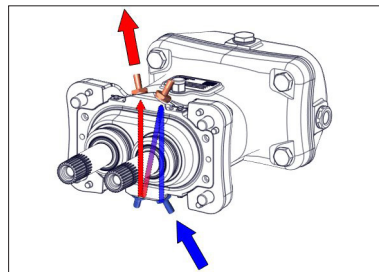
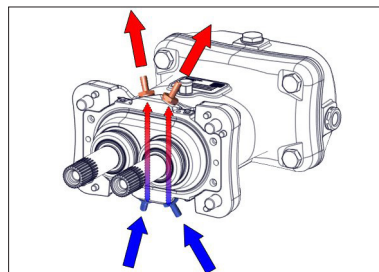

Fig. 6.3: Loss flushing
Fig. 6.4: Circulation flushing and connection to storage or sealing pressure tank
- ▶ Make the connection as shown in Fig. 6.3 and Fig. 6.4